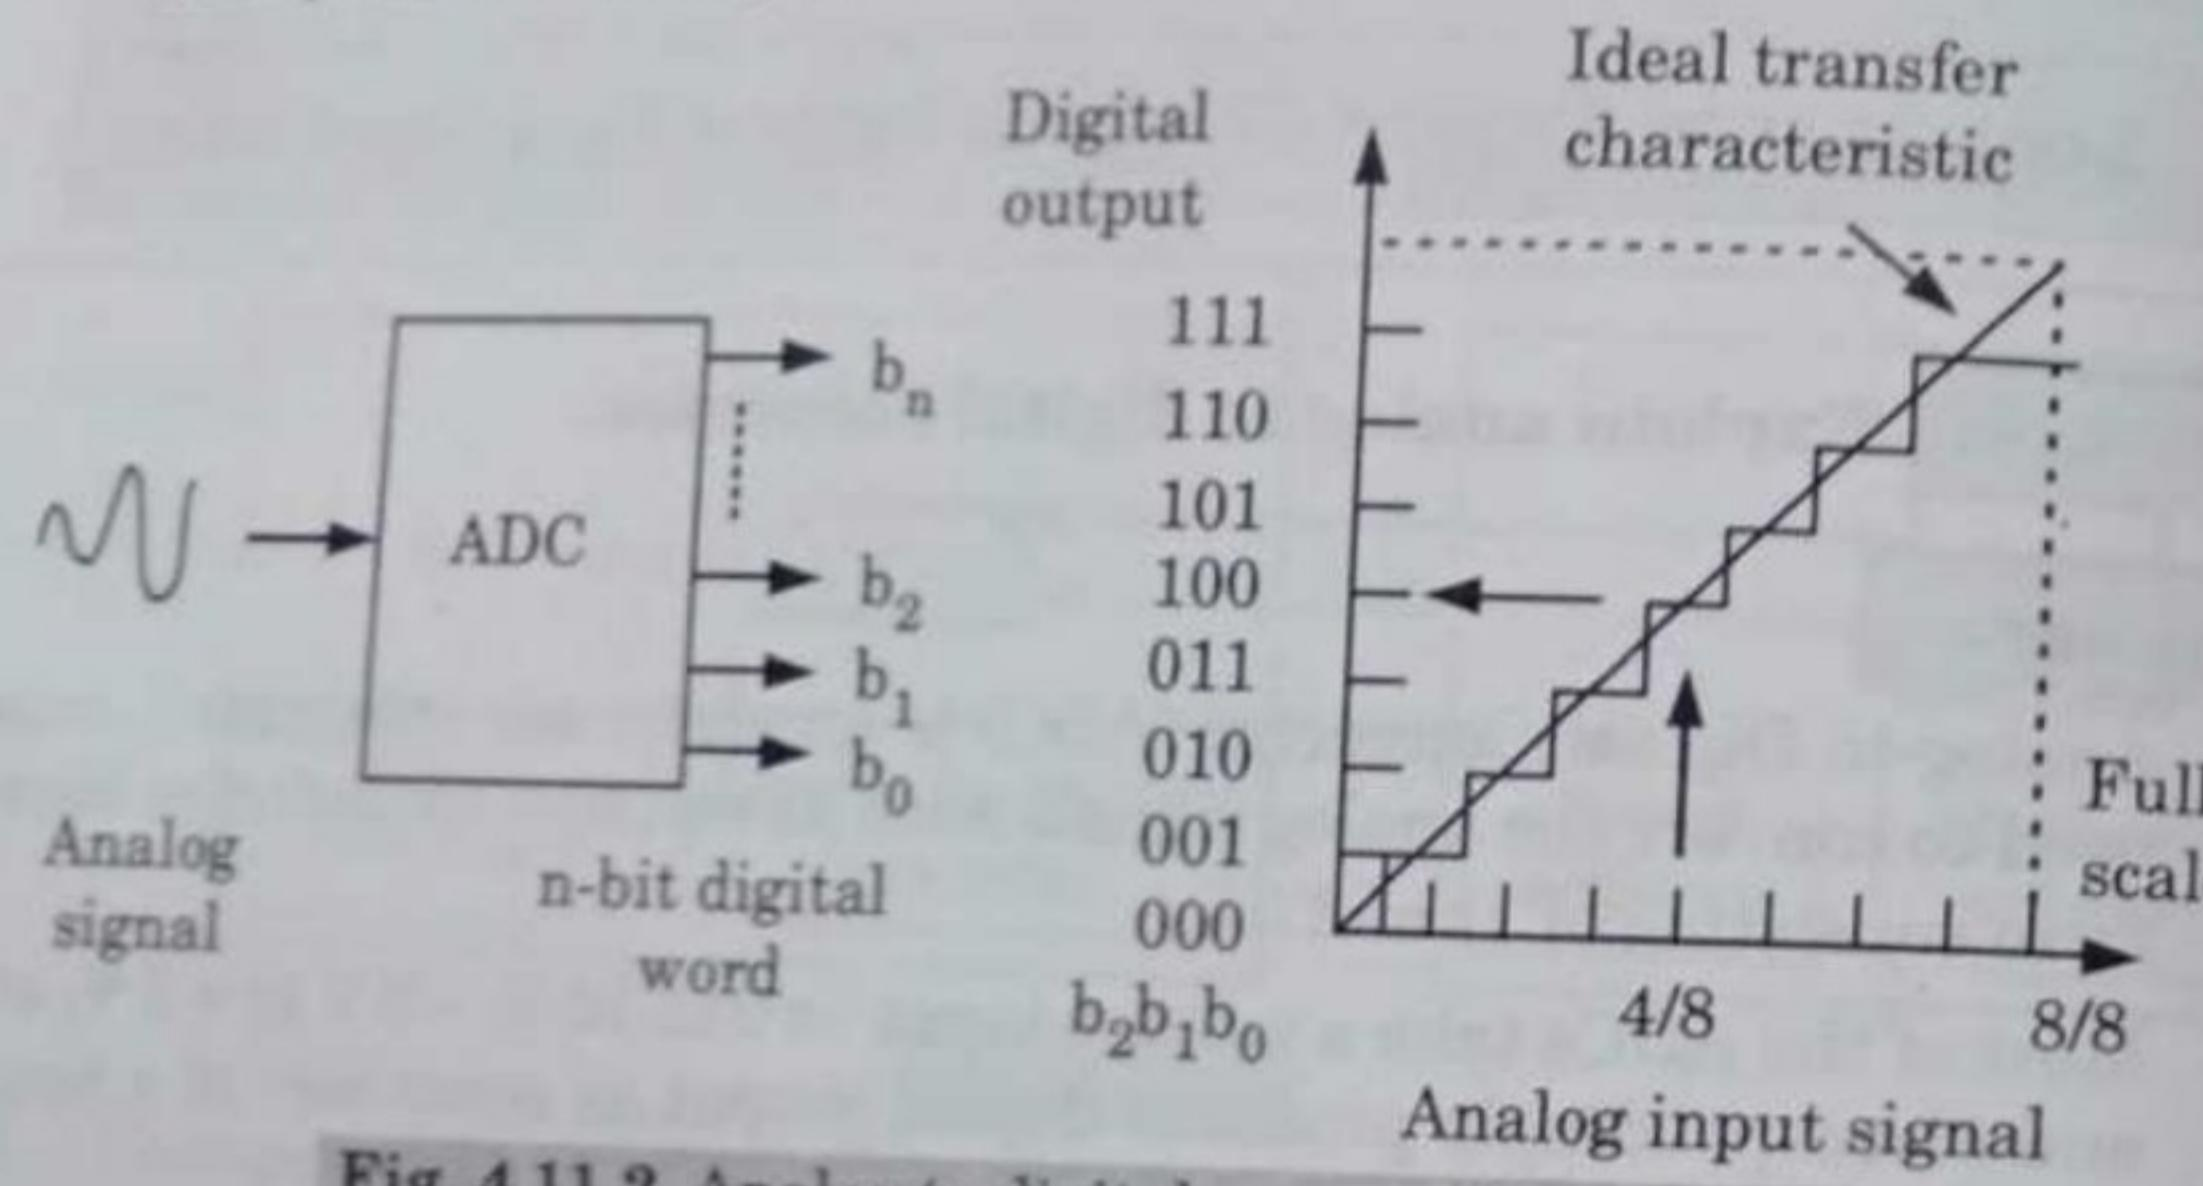

Fig. 4.11.2. Analog to digital conversion process.
6. In ADCs, two factors determine the accuracy of the digital value that captures the original analog signal. These are quantization level or bit rate and sampling rate as shown in Fig. 4.11.2.
7. Bit rate decides the resolution of digitized output and you can observe as shown in Fig. 4.11.2 where 3-bit ADC is used for converting analog signal.